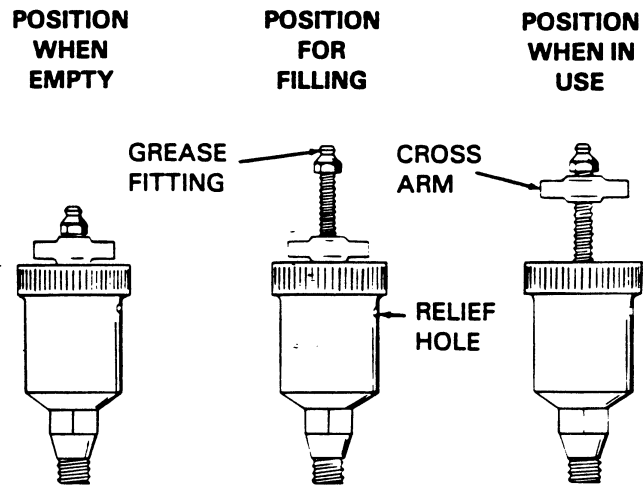

Figure 4. Automatic Lubricating Grease Cup
Fill the grease cup (23) through the grease fitting with No. 2 lithium base grease until grease escapes from the relief hole. Turn the grease cup arm counterclockwise until it is at the top of the stem; this will release the spring to apply grease to the seal (see Figure 4).